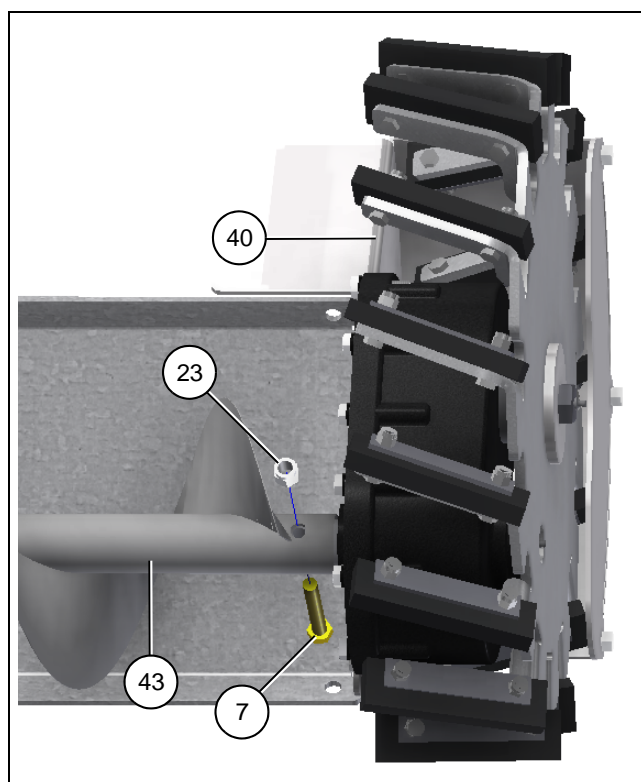

Figure 4X
2. Install the sweep end flight (43) onto the elevator wheel assembly (40) shaft using 3/8" x 2-1/2" bolt (7) and 3/8" lock nut (23). *(See Figure 4X.)*